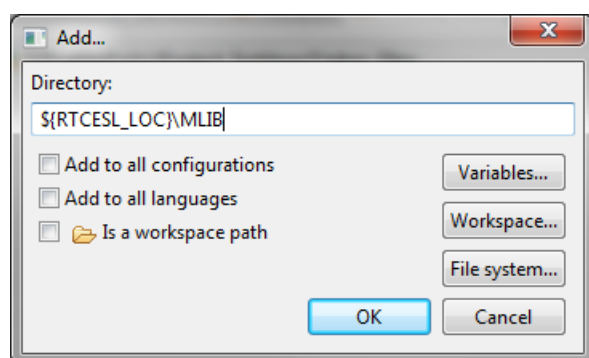

Figure 1-21. Library path inclusion
5. Look for the RTCESL_LOC variable by clicking Variables..., and then finish the path in the box by adding the following (see Figure 1-21): `${RTCESL_LOC}\MLIB`.